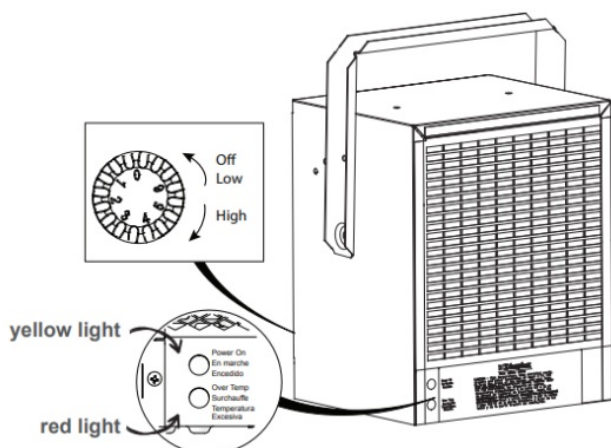

Figure 5
1. Before connecting or disconnecting plug, turn knob fully counterclockwise (Figure 5).